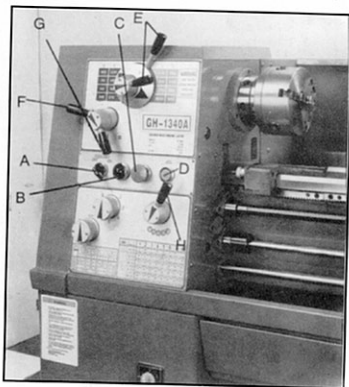

Fig.10
A.Coolant On-Off Switch (A, Fig. 10) turns coolant pump on and off.
B.Power Indicator Light (B, Fig. 10)-lit whenever later has power.
C.Emergency Stop Switch (C, Fig. 10)-depress to stop all machine functions. (Caution: lathe will still have power). Twist to re-set.
D.Jog Switch (D, Fig. 10)-depress and release to advance spindle momentarily.
2. **Headstock Gear Change Levers** (E, Fig. 10)-located on front of headstock at the top. Move levers left or right to desired spindle speed.
3. **Leadscrew/Feedrod Directional Lever** (F, Fig. 10)-located on front of headstock. Moving the lever up causes carriage travel toward the tailstock. Moving the lever down causes carriage travel toward the headstock. Do not move lever while machine is running.
4. **Feed/Lead Selector Lever** (G, Fig. 10)-located on the front of the headstock at the top. Used whenever setting up for threading or feeding. Caution: in the "A" position, never run the lathe higher than 770 RPM.
5. **Feed/Lead Selector Lever** (H, Fig. 10)-located on the front lower right corner of the headstock. Used in setting up for feeding and threading. Positions "F" and "D" are for the feed rod. Positions "E" and "C" are for the feed screw. Position "0" is neutral.